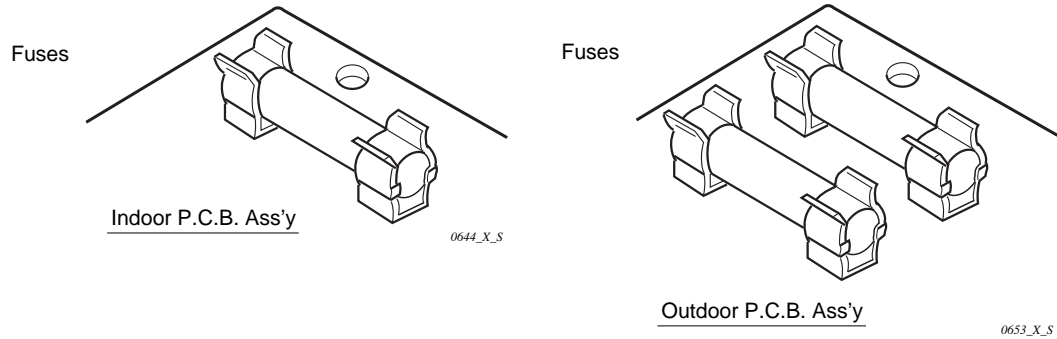

Fig. 46
⑩ **Fuse on indoor and outdoor P.C.B. Ass'y Both in indoor and outdoor unit**
- Remove the P.C.B. Ass'y from the electrical component box. Then pull out the fuse from the P.C.B. Ass'y. **(Fig. 46)**